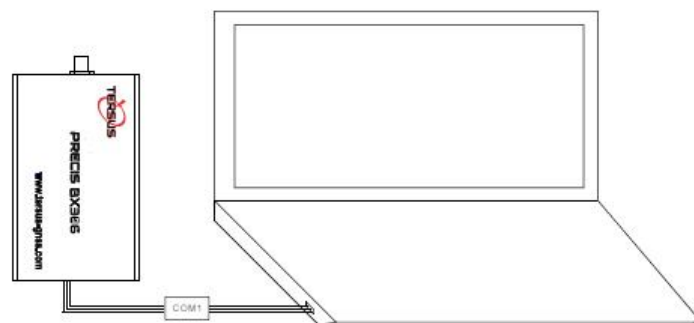

Figure 5.1 Download Files from eMMC Card with a Serial Port
- 1) Refer to Figure 5.1 and Figure 5.2 to create connection between a BX316/BX316R receiver and a computer; refer to Figure 2.10 to create connection between a BX306/BX316D receiver and a computer.